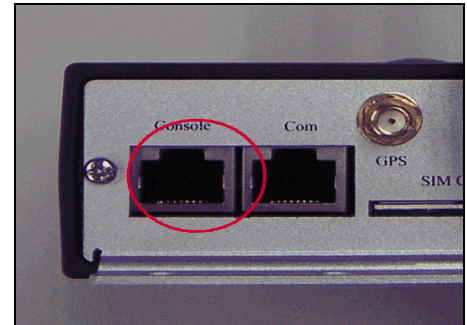

Figure 4
2. Plug the console cable to LGG console port and host Machine (Figure4);